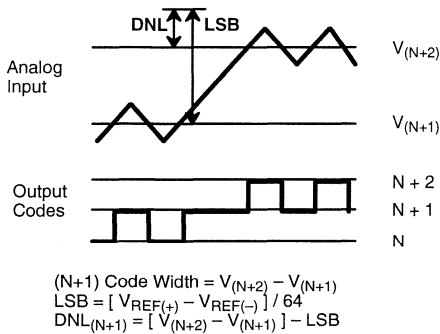
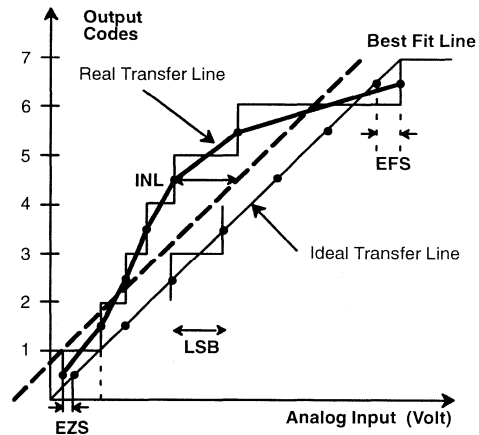

Figure 3. DNL Measurement
Figure 4. INL Error Calculation
- Tester measures code transitions by dithering the voltage of the analog input (V_{IN}). The difference between the measured and the ideal code width (V_{REF}/64) is the DNL error (Figure 3). The INL error is the maximum distance (in LSBs) from the best fit line to any transition voltage (Figure 4). Accuracy is a function of the sampling rate (F_S).